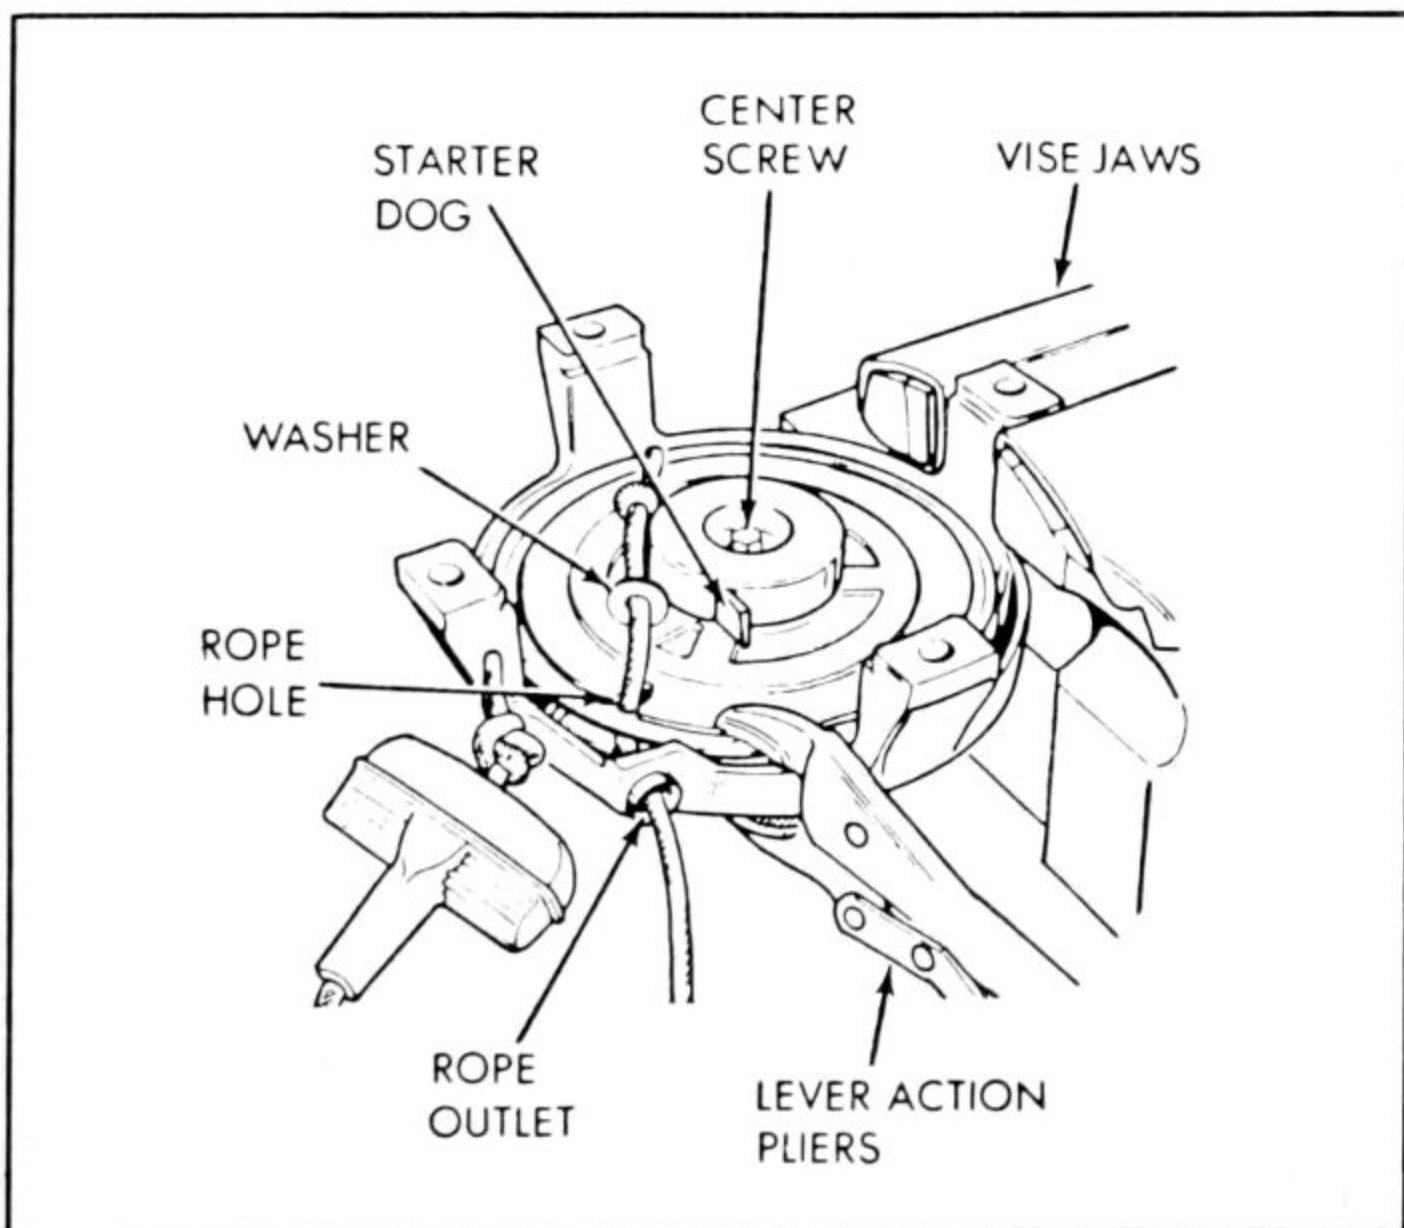

Fig. 4-15. Installing rope on one-piece sheave involves passing rope from outside starter housing, through eyelet, and into sheave connection point.
C) Caulterize ends of ropes and install rope through eyelet and sheave (Fig. 4-15).